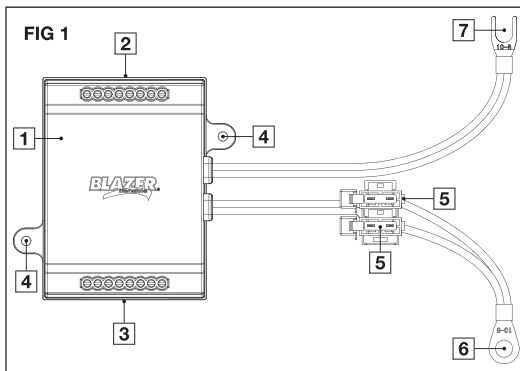

FIG 1
7. Attach the auxiliary lights/equipment following correct polarity on the terminals and not exceeding the maximum amperage of the channels (amperage printed on WMS and corresponds to amperage printed on the remote control for each bank of terminals). See **FIG 1** (on page 2)